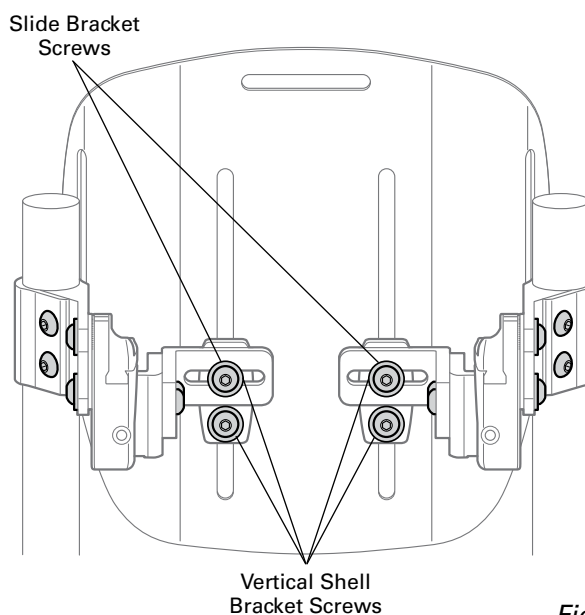

Fig. 8
1. Loosen the left and right Slide Bracket screws. *Fig. 8*
2. Allow the Slide Brackets to self-center. Loosen the left and right Slide Bracket screws until the slide brackets fit loosely and self-center in the Holsters. Tighten the Slide Bracket Screws. *Fig. 8*